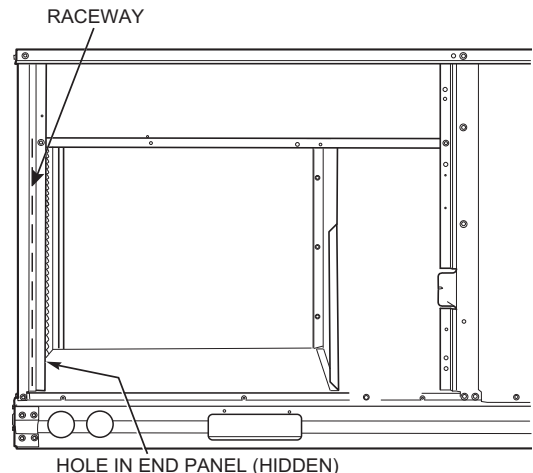

Fig. 33 — Field Control Wiring Raceway
Pass the thermostat control wires through the hole provided in the corner post; then feed the wires through the raceway built into the corner post to the control box. Pull the wires over to the terminal strip on the upper-left corner of the Controls Connection Board. See Fig. 33.
2. Feed wires through the raceway built into the corner post (see Fig. 33) to the 24-v barrier located on the left side of the control box. The raceway provides the UL-required clearance between high-voltage and low-voltage wiring.